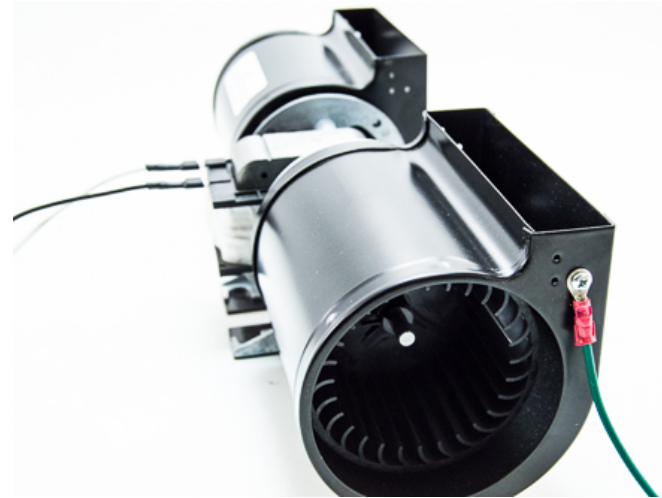

Figure: 1 • Does not matter which metal tab you connect the black and white wires to.
Step 2: Locate small hole on end of fan and attached Green Ground Wire - Screw is included (Figure: 1)
Connect White (Fan Neutral) and Black (Fan Hot) wires to either of the spade terminals attached to the motor. Push disconnects onto metal tabs. (Figure: 1)